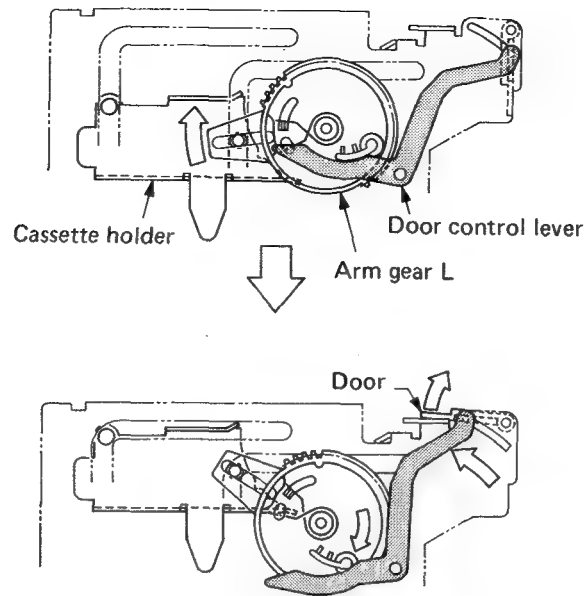

Fig. 3-1-8
- (1) The loading motor rotates and sets the cam gear to the stop mode (position II) and actuates the main brakes for the reel tables.
- (2) IC601 controls IC603 so that the reel motor rotates in opposite direction for approx. 1 sec to remove tape slack. Then, IC601 also controls IC603 and rotates the FL motor in reverse direction.
- (3) While the cassette holder is moving upward, the door control lever rotatively moves along the cam surface of the arm gear and the door opens. (Fig. 3-1-8)